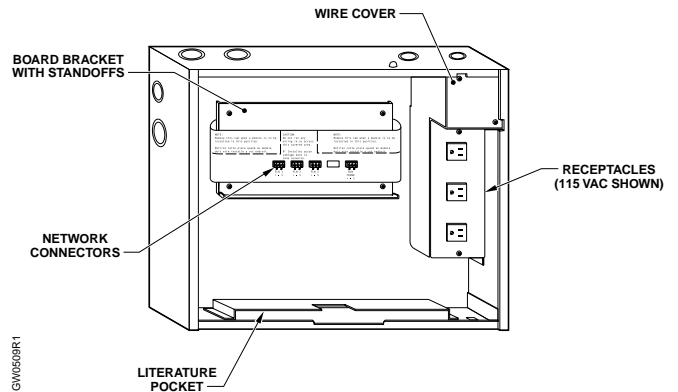

Figure 3. Easylink Enclosure Inside View.
1. Rotate the top two plastic stand-offs on the board bracket so that the clip of the standoff is positioned at the top. (Figure 3).